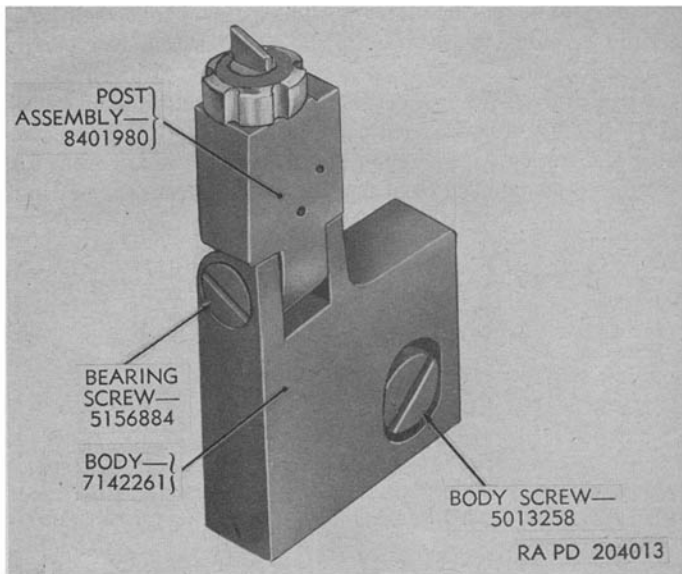

Figure 31. Front sight group.
c. Front Sight Group. Remove front sight group by unscrewing front sight body screw (figs. 31 and 32). To disassemble front sight group follow instructions given in TM 9-2012.